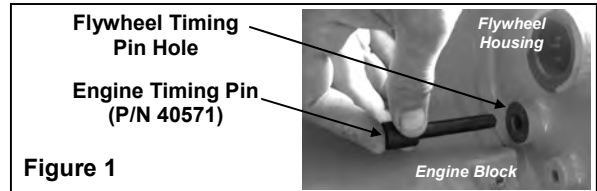

Figure 1
1. Position the engine crankshaft so number one cylinder is at TDC on the compression stroke. Insert the Engine Timing Pin (P/N 40571) thru the hole in the flywheel housing and engage the pin in the flywheel (Figure 1).